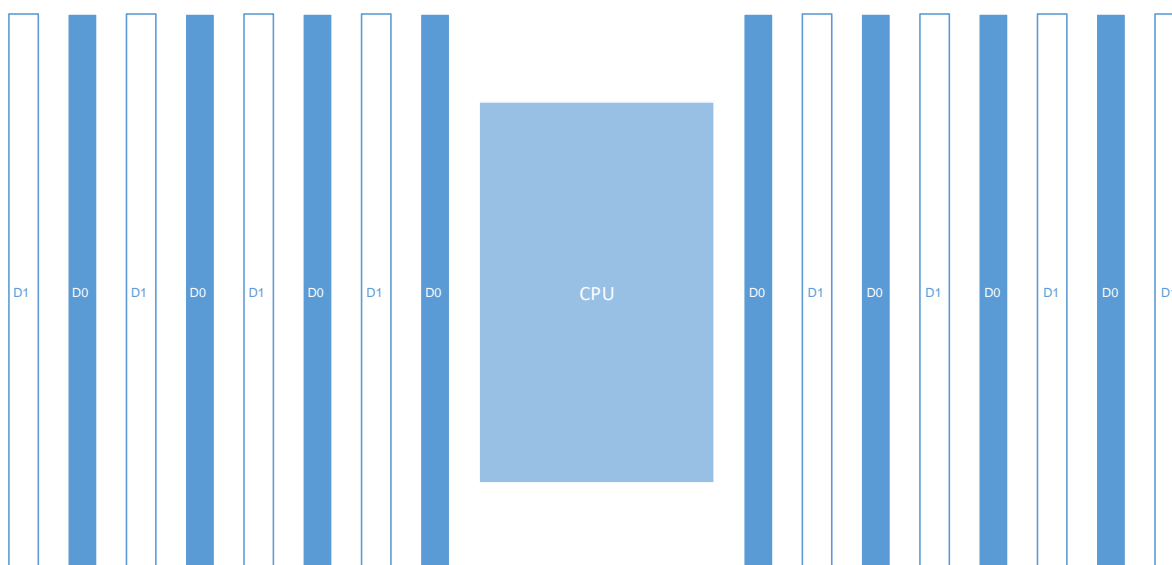

Figure 4: DIMM layout of AMD EPYC processors
- On Dell EMC platforms populate DIMM 1 first (white slots in Figure 4, below)